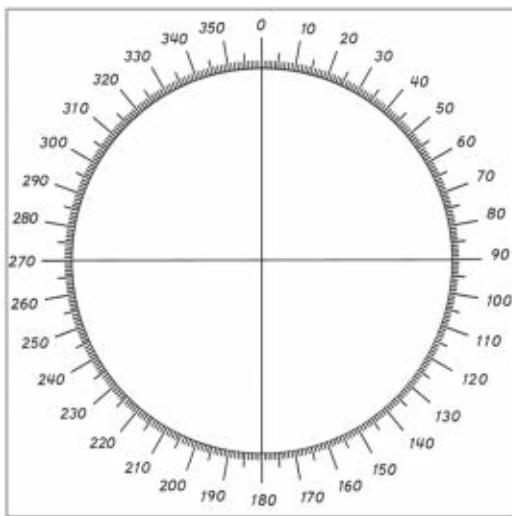

FIGURE 33:
- 1 Printout of the servo angle and pointer image shown in **Figure 33**
- Print the angle's dial and pointer shown in **Figure 33**. [Note this image can be found at the article link.]